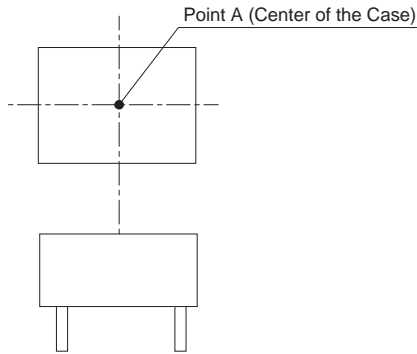

Fig.7.1 Temperature Measuring Point on the case (Top View)
- Please have sufficient ventilation to keep the temperature of point A in Fig.7.1 at table7.1 or below. Please also make sure that the ambient temperature does not exceed 85°C.